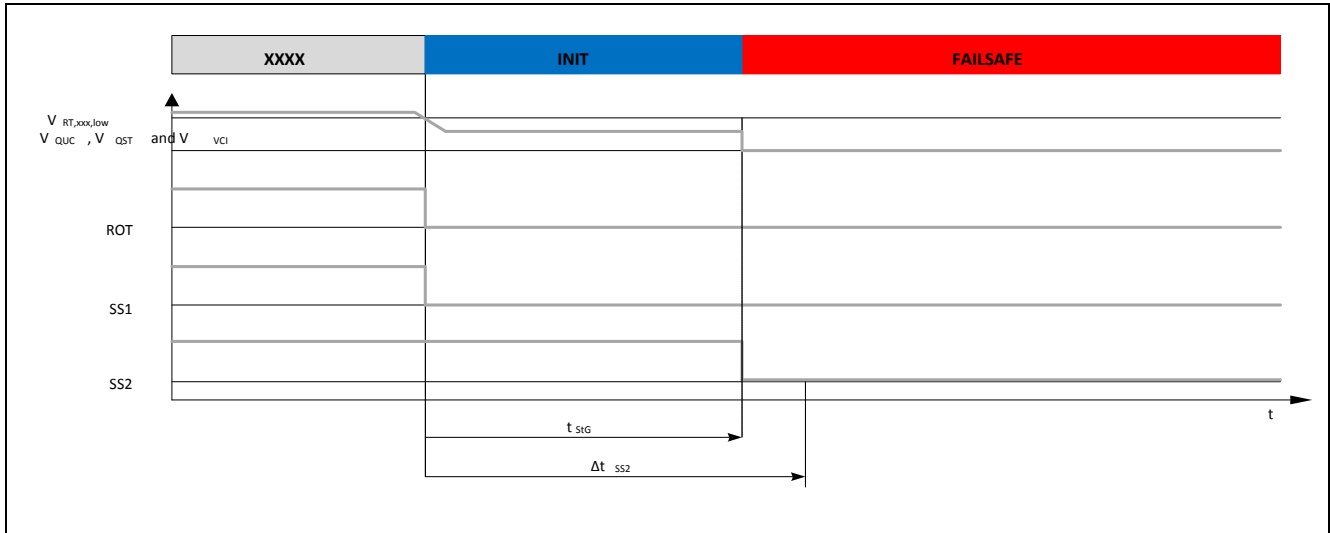

Figure52 Transition from XXXX to INIT to FAILSAFE state after detection of short to ground
- The detection of a short to ground of the μC related voltages V_{QUC} , V_{QST} or V_{VCI} as shown in the Figure 52 will first be detected as an under voltage event and move the device from NORMAL state to INIT state. After the short to ground detection time t_{SIG} the device will then move from INIT state to FAILSAFE state (please refer to transition from INIT state to FAILSAFE state).
- The detection of a short to ground of the μC related voltages V_{QUC} , V_{QST} or V_{VCI} as shown in the Figure 52 will first be detected as an under voltage event and move the device from STANDBY state to INIT state. After the short to ground detection time t_{STG} the device will then move from INIT state to FAILSAFE state (please refer to transition from INIT state to FAILSAFE state).
- The detection of a short to ground of the μC related voltages V_{QUC} , V_{QST} or V_{VCI} as shown in the Figure 52 will first be detected as an under voltage event and move the device from SLEEP state to INIT state. After the short to ground detection time t_{SIG} the device will then move from INIT state to FAILSAFE state (please refer to transition from INIT state to FAILSAFE state).
- The detection of a short to ground of the μC related voltages V_{QUC} , V_{QST} or V_{VCI} as shown in the **Figure 52** will first be detected as an under voltage event and move the device from WAKE state to INIT state. After the short to ground detection time t_{StG} the device will then move from INIT state to FAILSAFE state (please refer to transition from INIT state to FAILSAFE state).